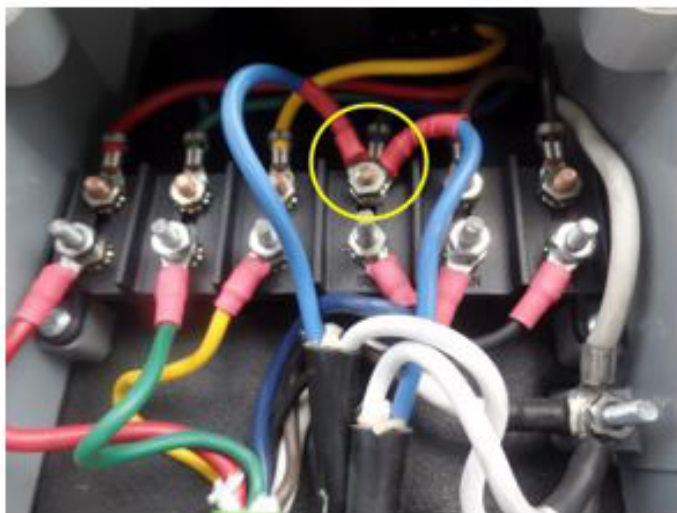

Figure 1: 7-Way Nosebox
- Check to see if the 7-way nosebox is equipped with circuit breakers (see Figure 1), as the problem may be a failing circuit breaker. Either replace circuit breaker with a new part or connect the blue wire from the nosebox controller to the unprotected side of the circuit breaker. Circuit protection is provided by the 30 amp fuse inside the nosebox controller.